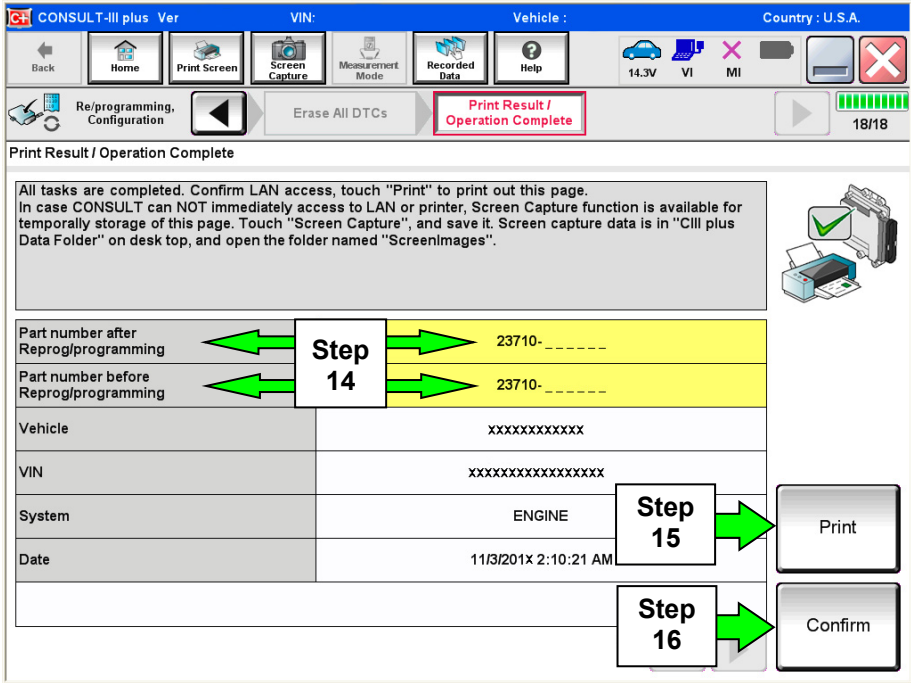

Figure 7
- 13. When the entire reprogramming process is complete, the screen in Figure 7 will display.
- 15. Print a copy of this screen (Figure 7) and attach it to the repair order for warranty documentation.